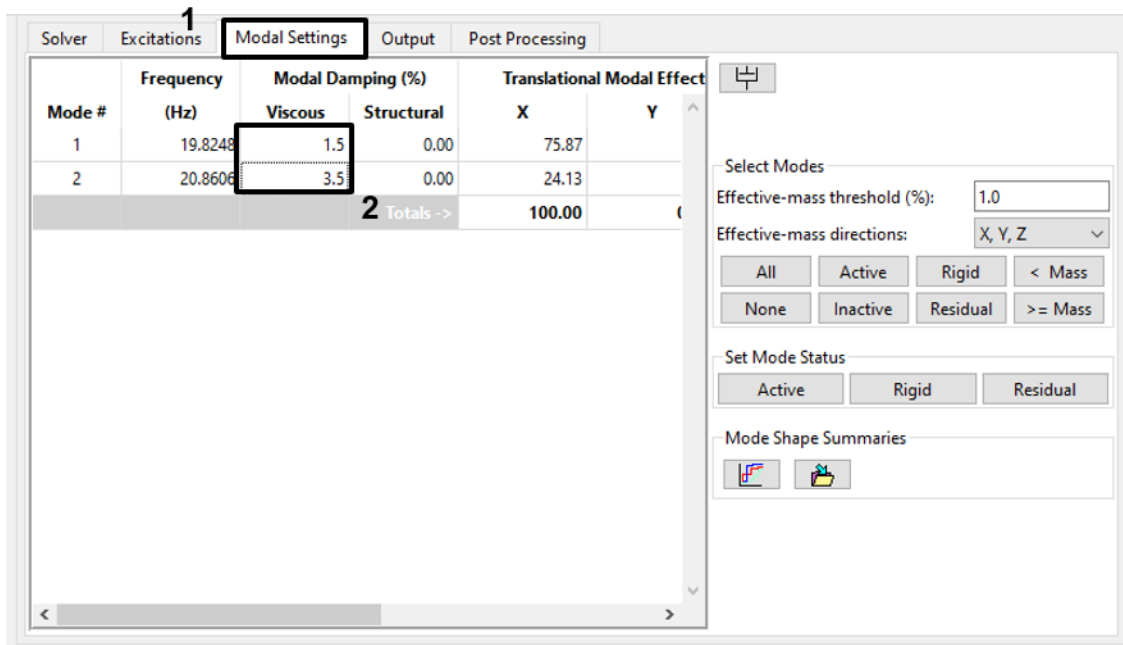

Figure 4-20. With only two modes, you can assign damping directly in the damping table.
- On the *Modal Settings* tab, assign 1.5% damping to mode 1 and 3.5% damping to mode 2. Double-click in the *Viscous* cell under *Modal Damping (%)* for each mode and entering the proper value (Figure 4-20).